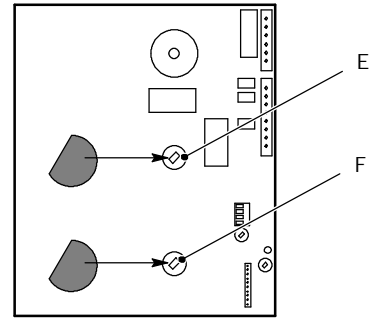

fig. 48
- 2 insert the spindles in the potentiometers *E* and *F* (fig. 48) and rotate them fully clockwise;
- 3 extract the spinldes and insert them with the flat side pointing in the direction shown in fig. 48;